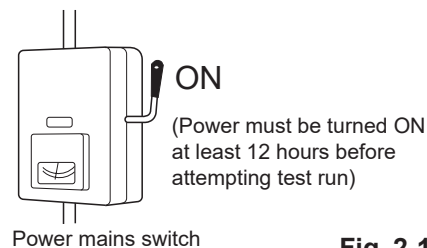

Fig. 2-1
- (4) The transportation pads for the indoor fan have been removed. If not, remove them now.
- (5) The power has been supplied to the unit for at least 12 hours before starting the compressor. The bottom of the compressor should be warm to the touch and the crankcase heater around the feet of the compressor should be hot to the touch. (Fig. 2-1)